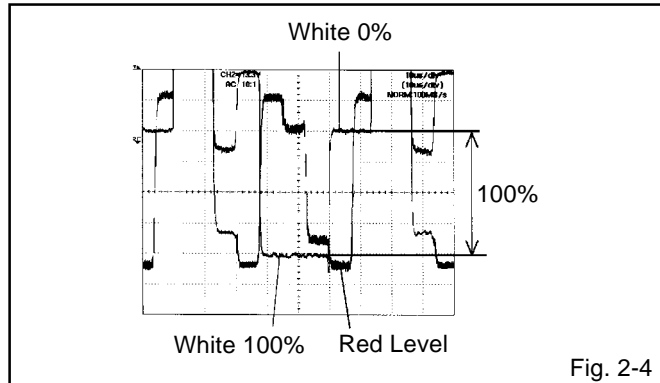

Fig. 2-4
6. Press the VOL. UP/DOWN button on the remote control until the red color level is adjusted to $110 \pm 5\%$ of the white level. **(Refer to Fig. 2-4)**